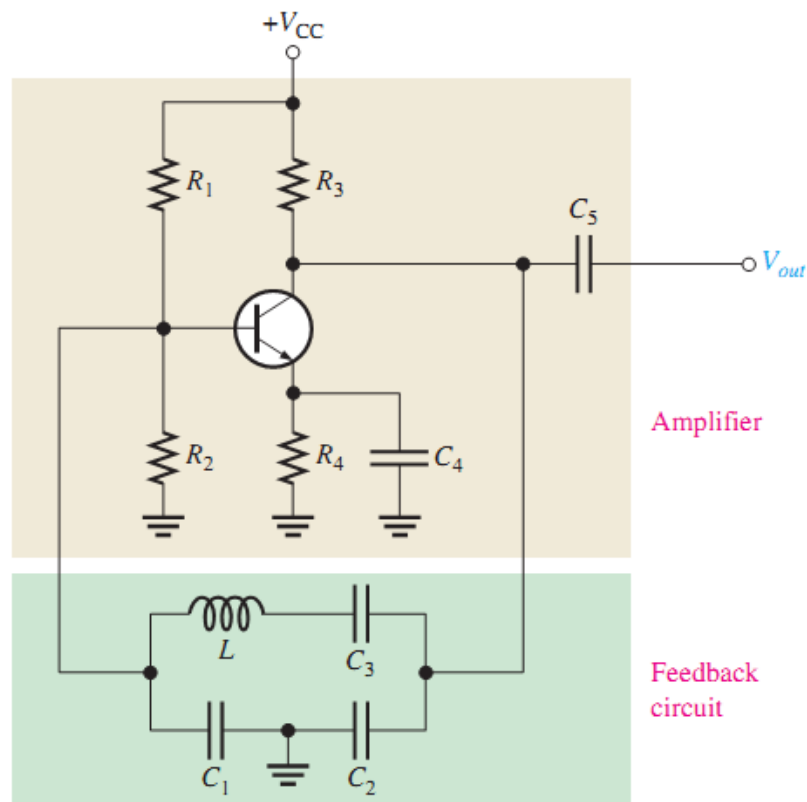

Figure 19 A basic Clapp oscillator.
- The basic difference is an additional capacitor, C_3 in series with the inductor in the resonant feedback circuit, as shown in Figure 19.